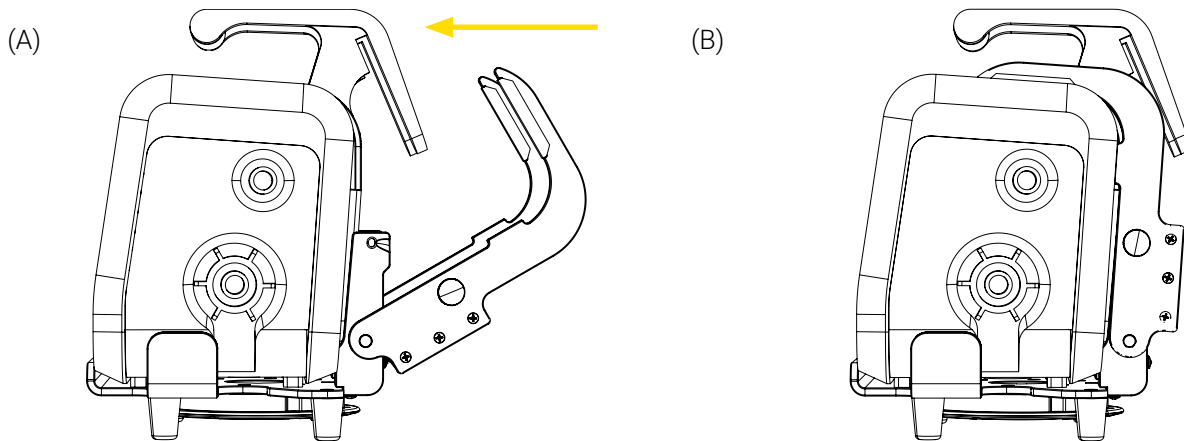

Figure 4: Installing the medical device in the Bracket Pro Serie 60 - SD
3. Lift the locking system up and over the medical device, then press it down until it is locked (Figure 4).